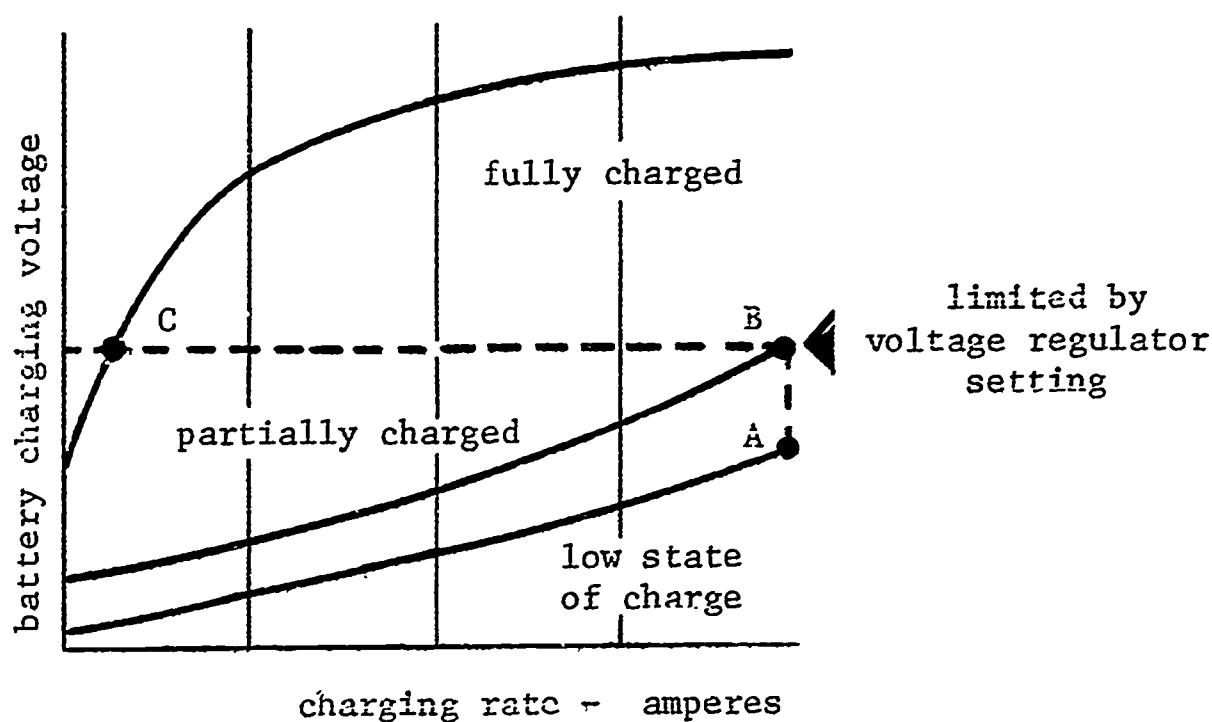

Fig. 11 Charging rate
Figure 11 illustrates the relationship between battery charging voltage at the battery terminals and charging rate (amperes) with a series of curves representing various states of charge for a typical passenger car type battery (at 80 F) as used in a typical charging system. The horizontal line, dividing the chart, represents a typical battery charging voltage, which is limited by the voltage regulator setting. The upper area indicates combinations of charging voltage and charging rates prevented by the voltage regulator setting. The lower area indicates normal operating combinations. The actual values on which these state of charge curves are based will vary with different types and sizes of batteries. These curves, however, may be considered as typical.
Consider first the curve for a battery that is in a low state of charge. Under this condition the battery CEMF is low, and with sufficient generator speed and output capacity, the charge rate to the battery will be high as shown by point (A) on the chart in Figure 11.
The curve in the upper half of Figure 11 shows the charging rate which would occur if the voltage regulator did not operate to reduce or limit the charging process.